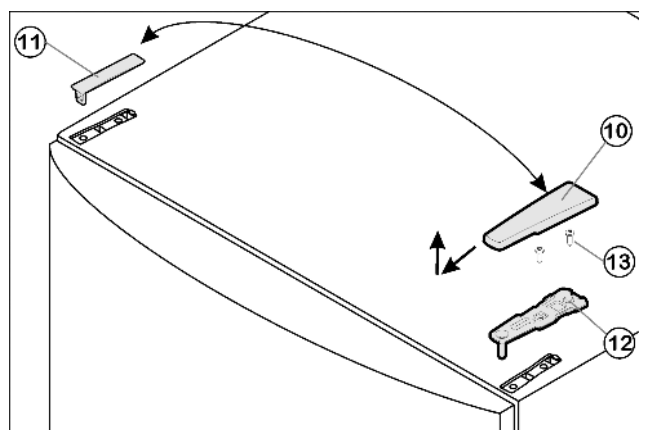

Fig. 6
- ▶ Pull off the cover Fig. 6 (10) forwards and upwards.
- ▶ Lift off the cover Fig. 6 (11).
- ▶ Unscrew the upper turn hinge Fig. 6 (12) (2x Torx® 25) Fig. 6 (13) and raise it for removal.
- ▶ Insert the upper turn hinge Fig. 6 (12) in the door on the new hinge side.
- ▶ Screw the upper turn hinge Fig. 6 (12) firmly into place (with 4 Nm) (2x Torx® 25) Fig. 6 (13). Possibly make preliminary holes with a bradawl or use a cordless screwdriver.
- ▶ Snap the cover Fig. 6 (10) and cover Fig. 6 (11) into place at the opposite side.